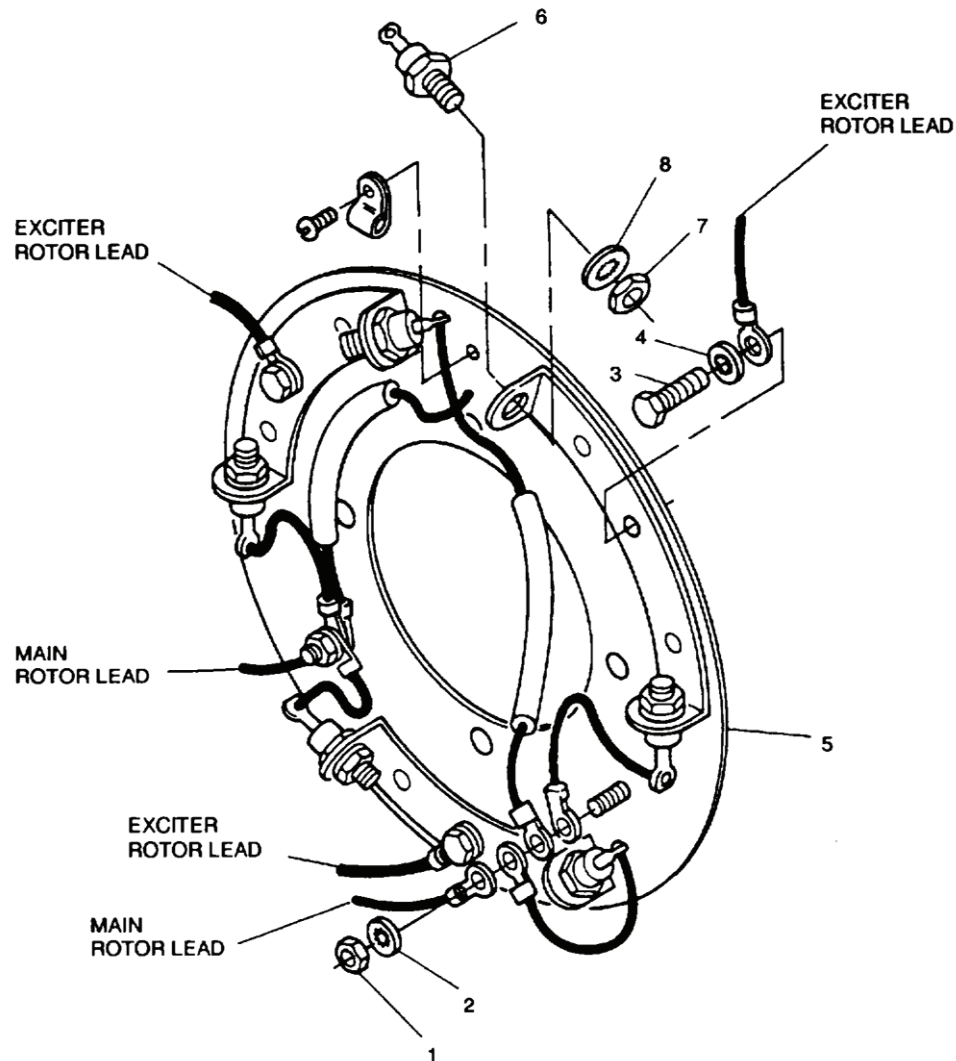

Figure 1. Rectifier Assembly.
5. Remove nuts (Figure 1, Item 1) and lockwashers (2) from rotating rectifier terminals. Discard lockwashers (2).